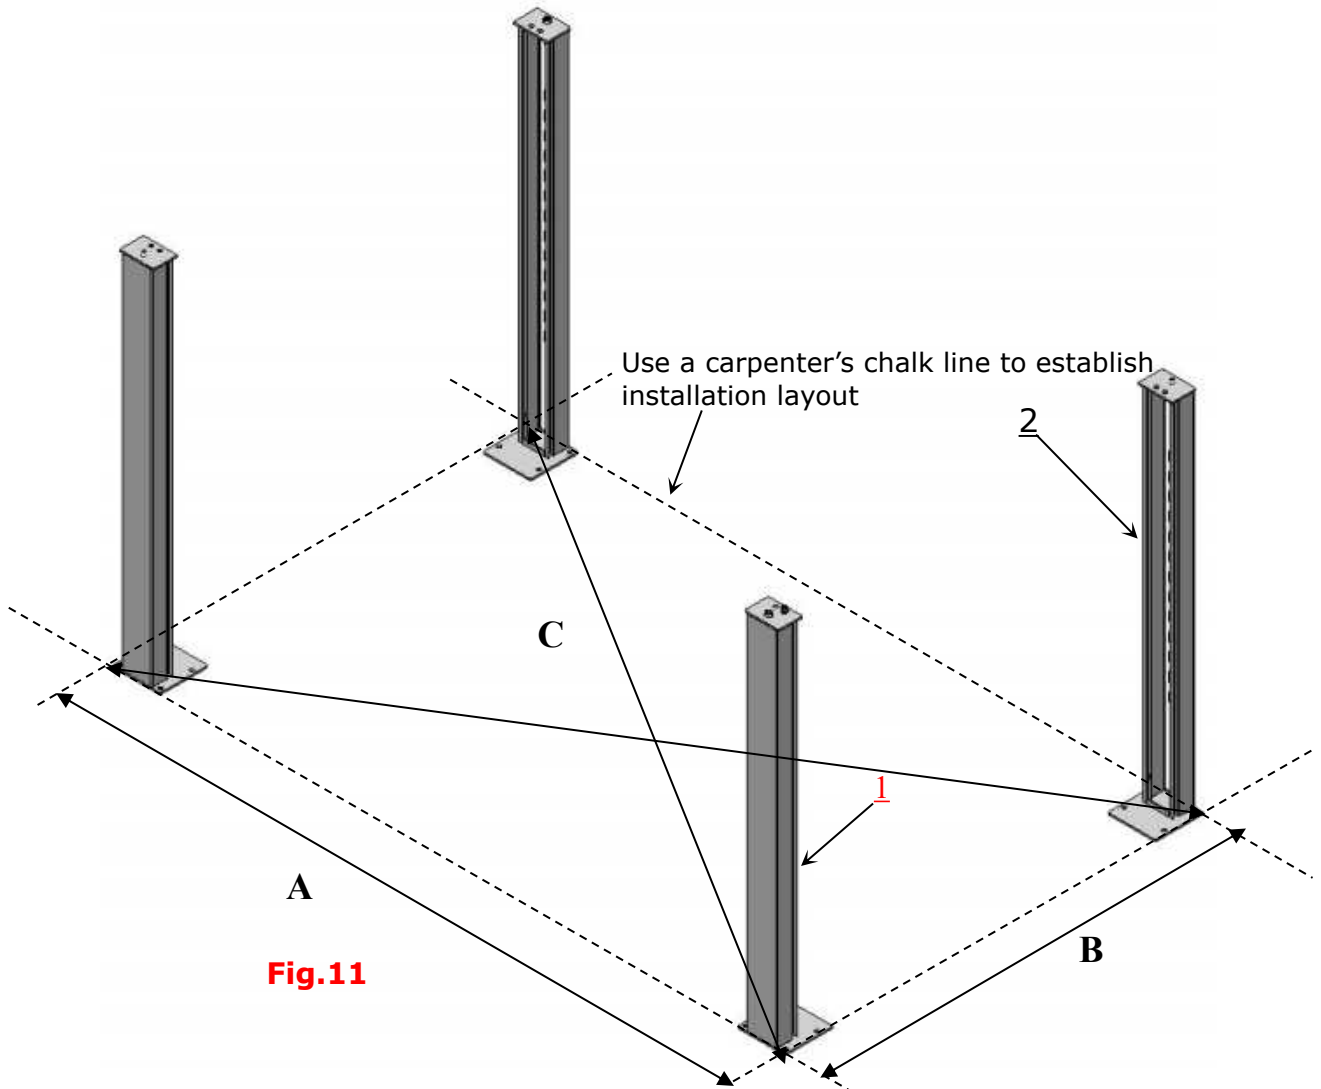

Fig.11
**B. Use a carpenter's chalk line to establish installation layout as per Fig.11. Make sure the size is right and base is flat (see Fig. 11).